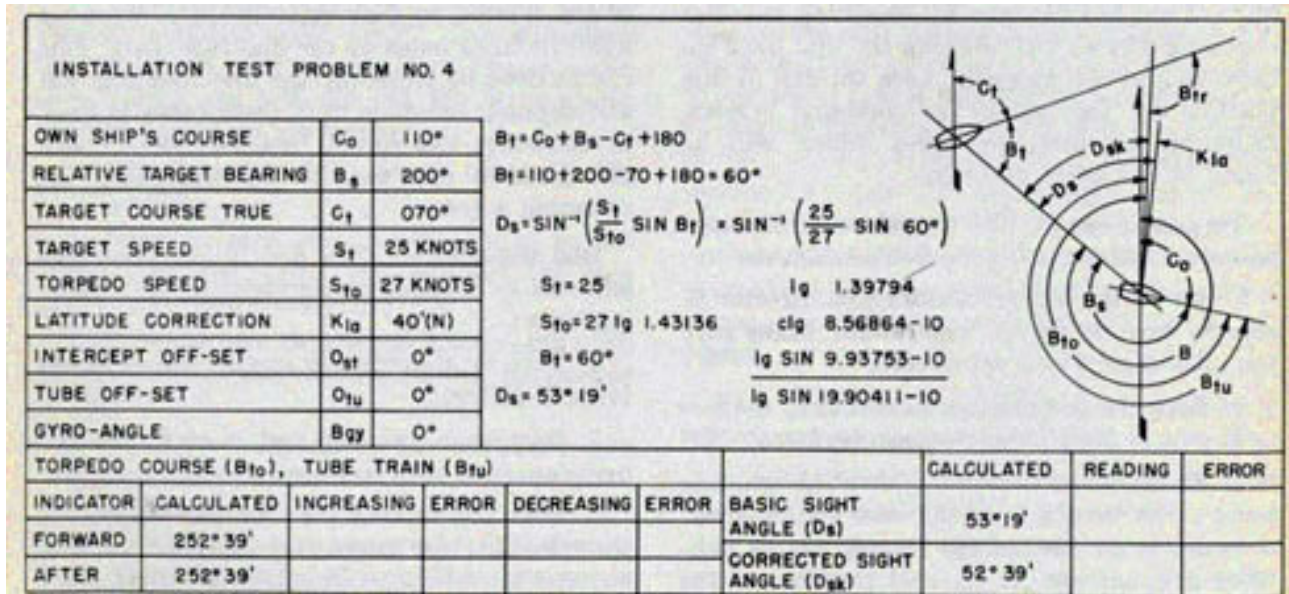

Figure 89-Test problem No. 4.
quantities are set up correctly in the director and if the director is operating properly, the values for torpedo course, basic sight angle and corrected sight angle as produced by the director should agree with the values given for these quantities in the problem. For example: Using the values given in Problem No. 4, set the following quantities into the torpedo director: (1) 110 degrees own ship course, (2) 200 degrees relative target bearing, (3) 70 degrees target course, (4) 25 knots target speed, (5) 27 knots torpedo speed, (6) 40' (north) latitude correction, and (7) zero degrees for intercept offset, tube offset and gyro angle. As shown in figure 89 for this set-up, the torpedo course dials should indicate 252 degrees 39', the basic sight angle dial 53 degrees 19', and the corrected sight angle dial 52 degrees 39'.
Before the torpedo director is put into actual operation, several torpedo control problems should be set up on the director and the results checked against calculated data for these problems. Two different torpedo control problems are given in figures 89 and 90. If the given